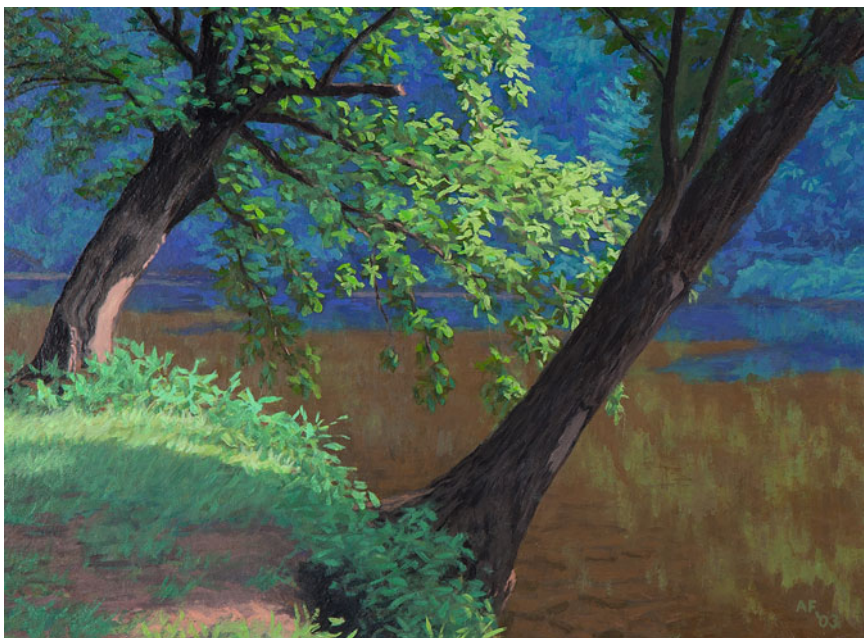

FIGURE 5.21 Digital capture of painting by Allen Furbeck before assigning scan profile in Adobe Photoshop.
- *Fine Art Reproduction*—If you are photographing or scanning or scanning a painting or other work of art, as shown in Figure 5.20, one important goal will be to faithfully render the colors of the original artwork as closely as possible. Figures 5.21 and 5.22 show an image of a painting by Allen Furbeck before and after assigning a digital camera ICC profile in Photoshop.